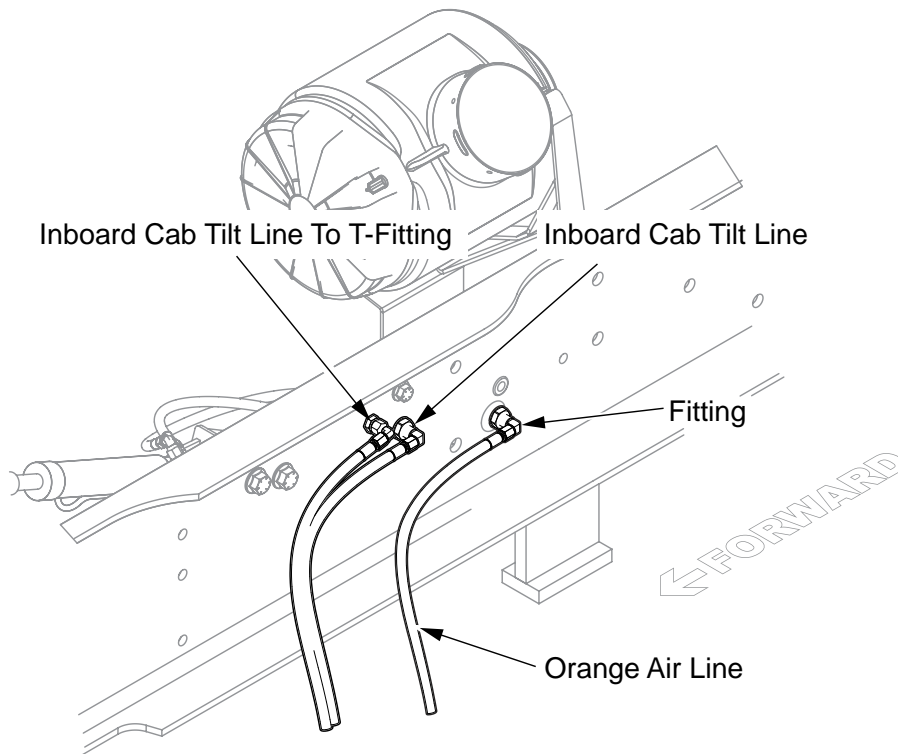

Figure 6
11. On the inboard side of the frame rail locate and disconnect the 1/2" orange air line. Reposition and lay to one side until ready for reinstallation (see Figure 6).
12. Using a 3/4" combination wrench, remove the fitting to which the orange air line was connected and set aside for reinstallation (see Figure 6).
13. Locate the two cab tilt lines on the left side of the inboard frame rail and place a reference mark on each air line for reinstallation (see Figure 6).
14. Using a 9/16" combination wrench, disconnect the two cab tilt lines and set aside for reinstallation (see Figure 6).
36. Using a 3/4" combination wrench, from the inboard side of the frame rail, reinstall the fitting to which the orange air line was connected. Then, reconnect the orange air line (ref. *Figure 6*).
38. Using a 9/16" combination wrench, reconnect the two cab tilt lines that were reference marked and set aside in step 14 (ref. *Figure 6*).